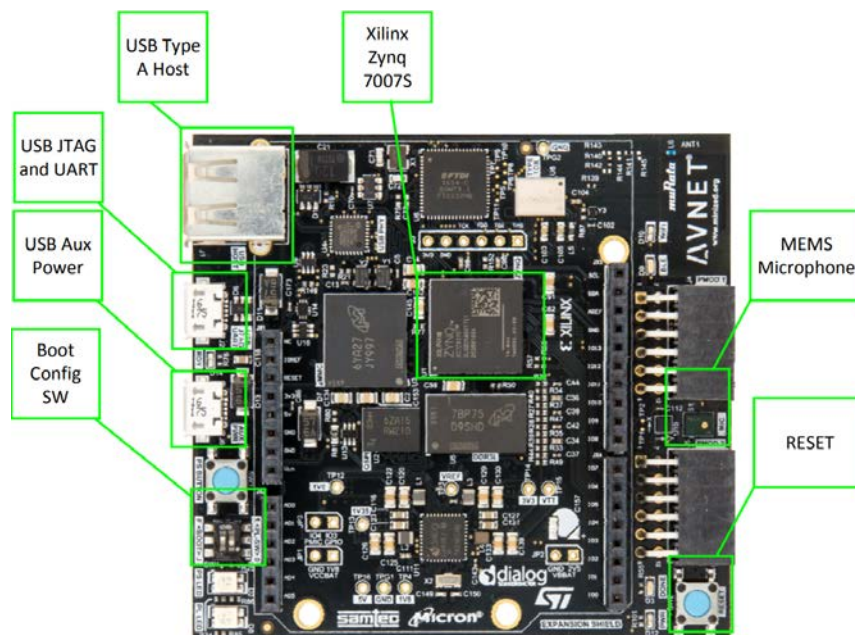

Figure 32 – Reset Button
38. For MiniZed, skip this step. For other products with an SDCARD cage, insert the SDCARD into the SDCARD cage. Turn on the power and you should observe a similar display, as shown in Figure 32 for Ultra96 and for Figure 35 UltraZed-EV.